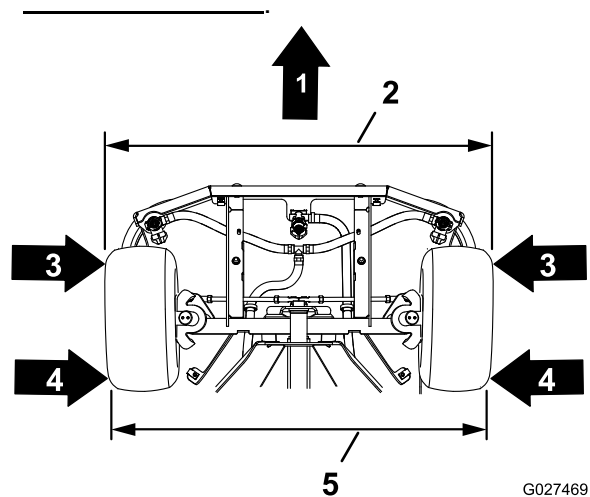

Figure 94
4. Measure the distance between the 2 front faces of the front tires as shown in Figure 94.
5. Measure the distance between the 2 rear faces of the front tires as shown in Figure 94.